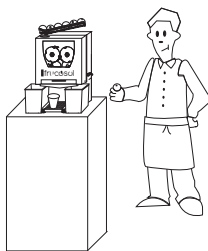

FIG. 3
- Put the citrus fruits in the feeding ramp or feeder. In the F-50 A, F-50AC, Self-Service, Freezer, load the feeder system (FIG.3)
- General Pump (1) to start the machine and the mixer. When the switch lights is on it, means that the machine and the mixer are turned on.
- Cold (2) to start cooling the product. When the switch lights on, it means that the compressor is on.